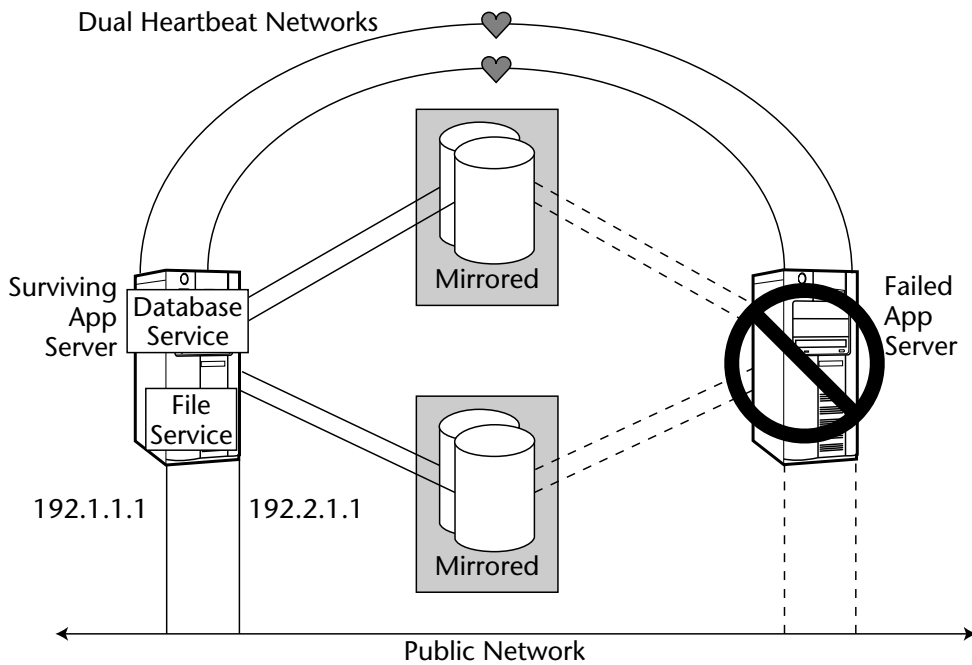

Figure 17.5 Active-active configuration, after a failover.
There are two fundamental downsides to active-active configurations, but they are relatively minor and usually acceptable. The first, which we discussed in the *Level 3: Good* section, is the risk that one of the servers will be unable to take over from its partner when it is required to, because of a problem with its own critical application. If all of the applications in the cluster are well tested and mature, the risk here is acceptably low. The second downside is in the inevitable performance impact on the takeover host when it begins performing double duty. If you are concerned about this performance impact, there are basically two ways to handle it: (1) Buy extra CPUs and/or memory for both servers so that they can more easily handle the additional load (but remember what we said about applications expanding to take up all available resources) or (2) decide not to worry about it. After all, if you buy extra hardware to account for the periods of double duty, it is difficult to ensure that this hardware will be used exclusively at takeover time only. More likely, the additional hardware capacity will be sucked up by the resident application and will still be unavailable to ease the load when it is required. When you consider that either server will likely be running in dual mode far less than 1 percent of the time, you will see that the concern about performance after a failover is much ado about nothing. If you can afford the extra hardware, great. Get it. If you cannot, don't worry. It's not going to be a very big deal, and in most cases it's better to have two services running a little slow than it is to have one service stop running completely. Figure 17.5 shows what a symmetric pair looks like after the failover has completed.